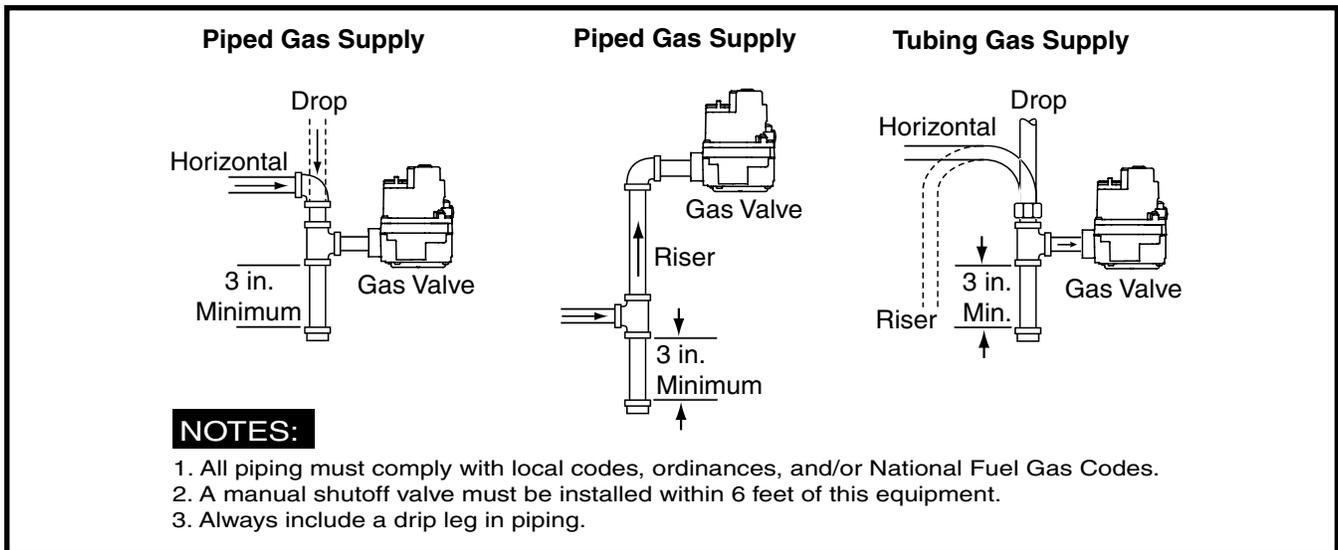

Figure 9. Typical Gas Service Connection
- Some local codes require the installation of a manual main shut-off valve and ground joint union external to the furnace. The shut-off valve should be readily accessible for service and/or emergency use See Figure 9 (page 12). Consult the local utility or gas supplier for additional requirements regarding placement of the manual main gas shut-off.
- A drip leg should be installed in the vertical pipe run to the unit (Figure 9).
This unit only has right side gas entry. When connecting the gas, provide clearance between the gas supply line and the entry hole in the unit's casing to avoid unwanted noise and/or damage to the unit. A typical gas service hookup is shown in Figure 9 (page 12).